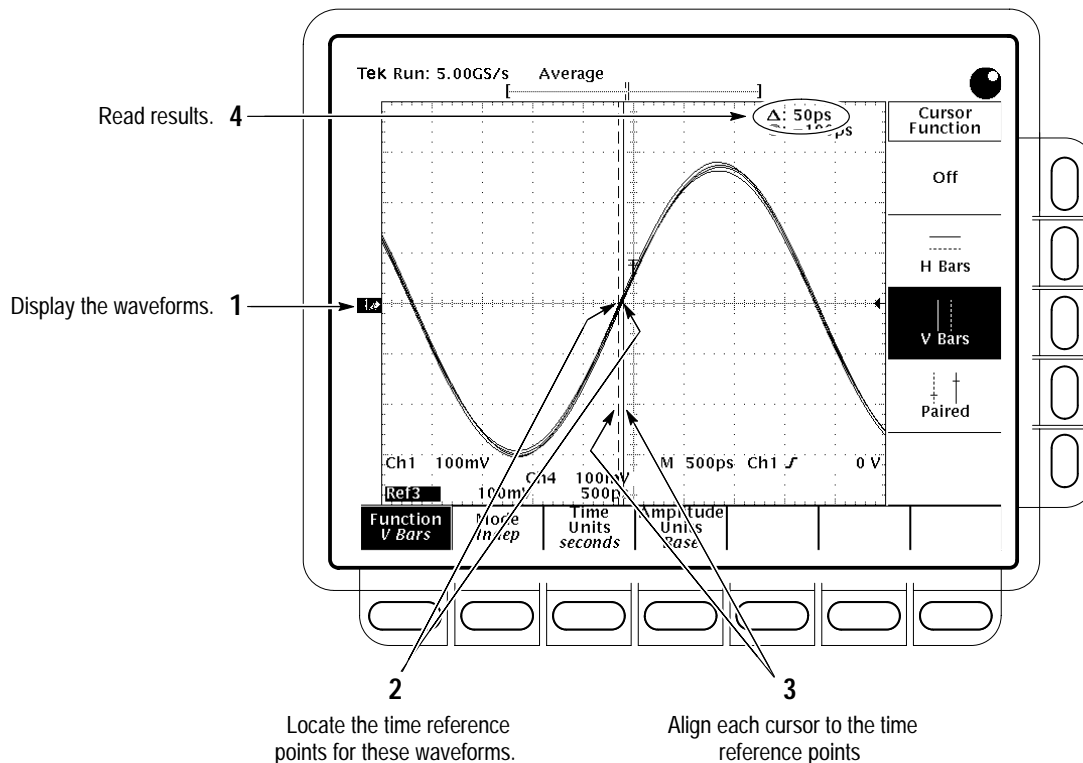

Figure 1–11: Measurement of Channel Delay – TDS 684B Shown
- Align one V bar cursor to the *time reference point* of the left-most waveform edge and the other cursor to the *time reference point* of the right-most waveform edge by rotating the General Purpose knob. (Press **SELECT** to switch between the two cursors.) See Figure 1–11 on page 1–41.